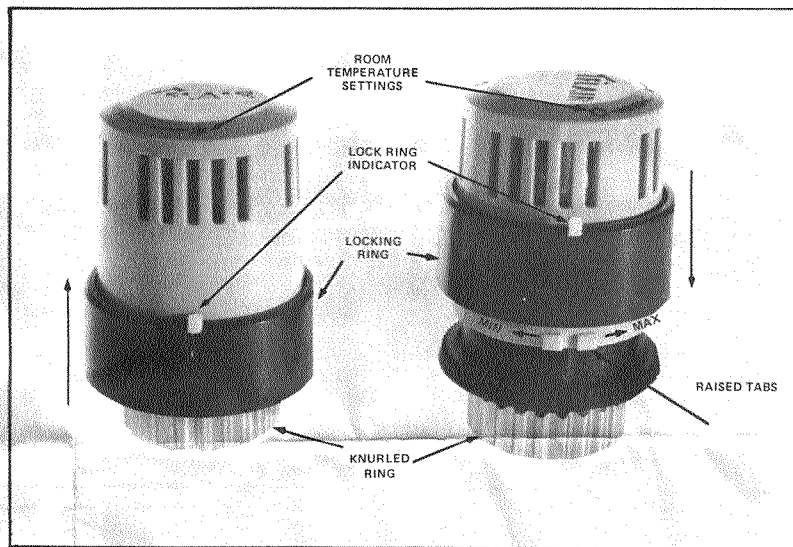

Figure 6
- (1) Turn the operator to a desired setting.
- (2) Pull off the dark grey locking ring without turning the operator.
- (3) Align the indicator of the locking ring between the two raised tabs of the operator. See Fig. 6.
- (4) Snap the locking ring back in place.
- (5) The operator is now locked at your desired setting.
- (1) Turn the operator to the highest desired setting.
- (3) Align indicator of locking ring to the left side of the two raised tabs of the operator. See Fig. 6.
- (5) The operator is now limited between the frost protection setting and the highest desired setting.
- (1) Turn the operator to the lowest desired setting.
- (3) Align indicator of locking ring to the right side of the two raised tabs of the operator. See Fig. 6.
- (5) The operator is now limited between the desired lowest setting and the fully open setting.
- (1) Remove the dark grey locking ring.
- (2) Align the indicator of locking ring with orientation notch on black plastic piece of the operator. See Fig. 6.
- (3) Snap the locking ring back in place.